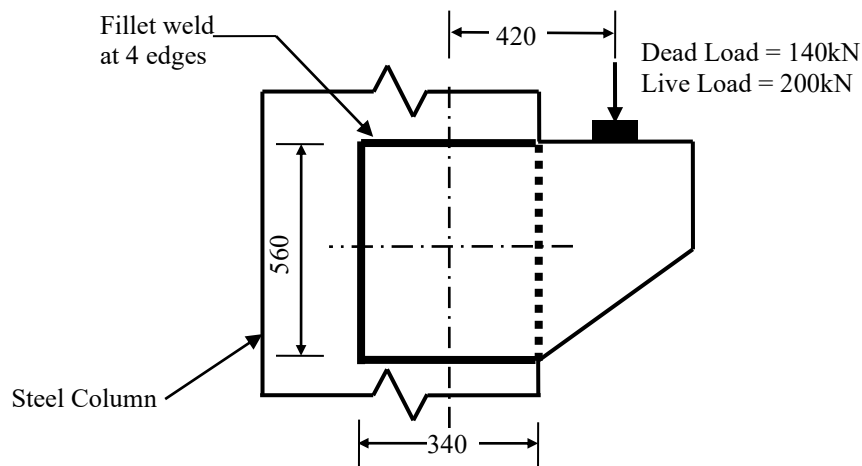

Figure Q3 (dimension in mm)
Q.3 A steel bracket as shown in **Figure Q3** is subjected to an eccentric design load, and the loading is on one side plate. Determine the size of fillet weld required for the bracket connection. The steel is of **Grade S355** and the electrode is of **Class 42**.